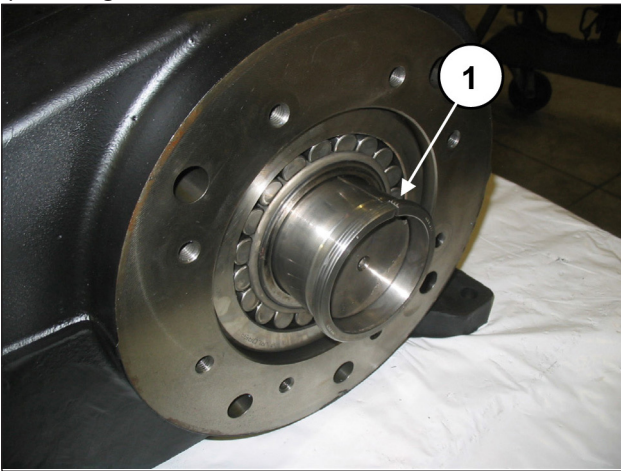

Fig. 44
Insert the pressure bush manually to keep the shaft aligned (pos. ①, Fig. 44).